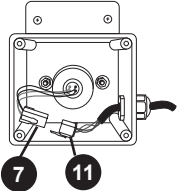

FIGURE 3
- Disconnect UV bulb socket (7) from the power cord socket (11), Figure 3.